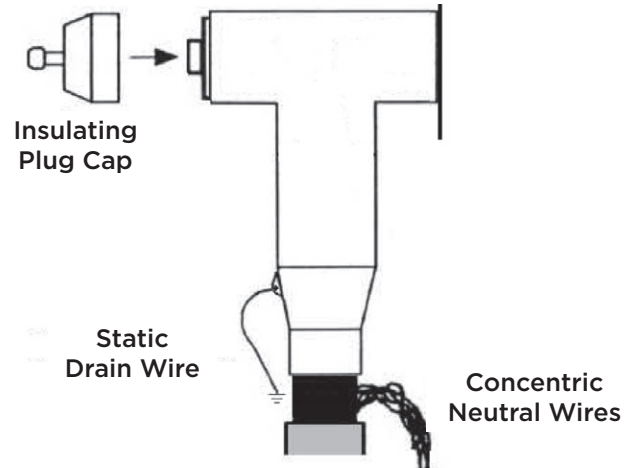

Fig. 12 - Final Steps
- B. Twist the neutral wires into a braid and connect to system ground with appropriate connector. Make sure to provide sufficient slack in ground braid to provide for future operation. (See Figure 12.)